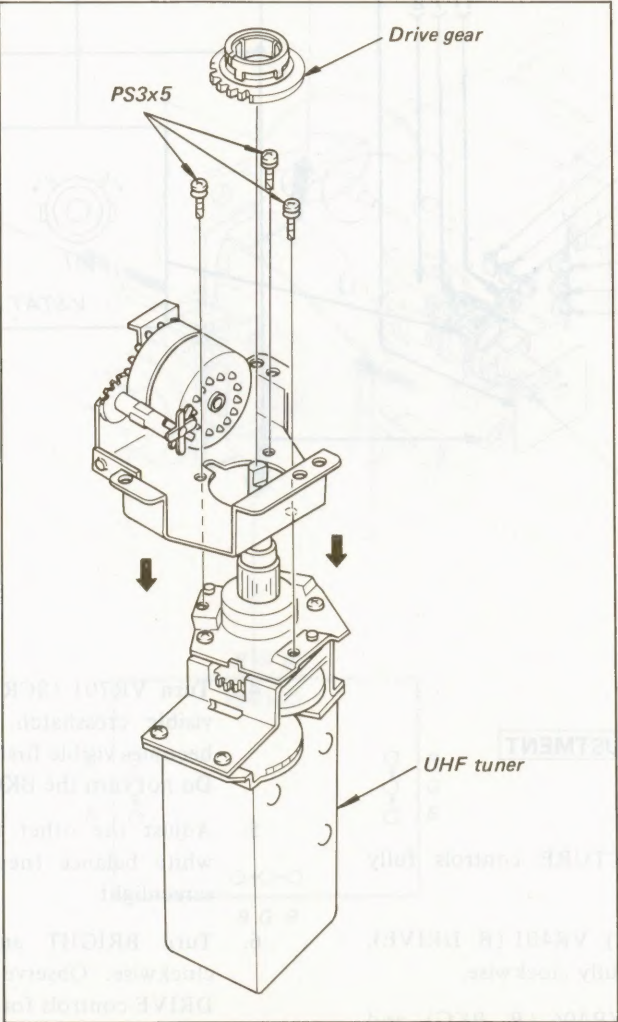

Fig. 2-7. UHF tuner dial calibration (3)
5. Tighten the UHF tuner with three screws (PS3x5), and then install the drive gear as shown in Fig. 2-7. Remove the cellophane tape.